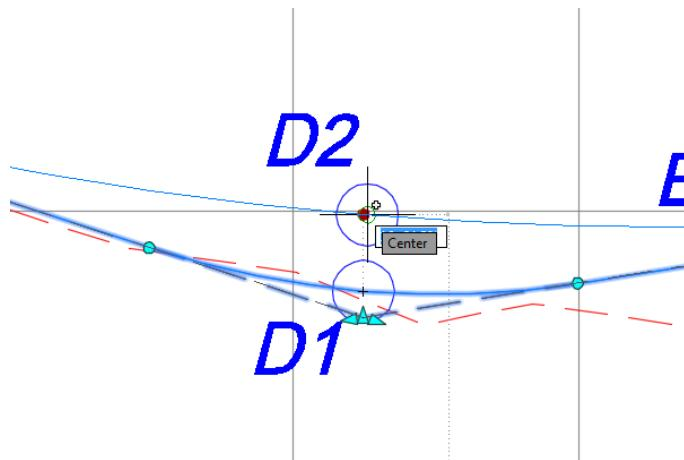

FIGURE 7.6 Moving the pass-through point grip
5. Click the circular grip located at the center of circle D1, and move it to the center of circle D2, as shown in Figure 7.6.